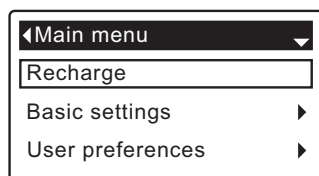
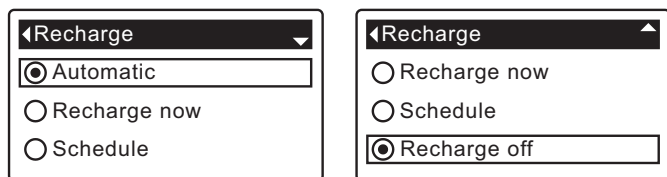
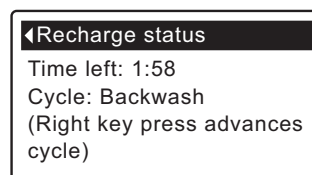

FIG. 32
FIG. 33
FIG. 34
3. Press the SELECT (O) button to display the Recharge menu (See Figure 33).
4. If the desired option already has a black dot next to it (See Figure 33), go to Step 5. Otherwise, press the DOWN (▼) or UP (▲) buttons to scroll to the desired option, then press SELECT (O) to choose it.
- **Recharge now** begins a recharge immediately after the SELECT (O) button is pushed again in Step 5.
5. Press the SELECT (O) button. If **Recharge now** is selected, the display immediately goes to the Recharge status screen (See Figure 34). If **Automatic**, **Schedule**, or **Recharge off** are selected, the display goes back to the Main menu (Figure 32).